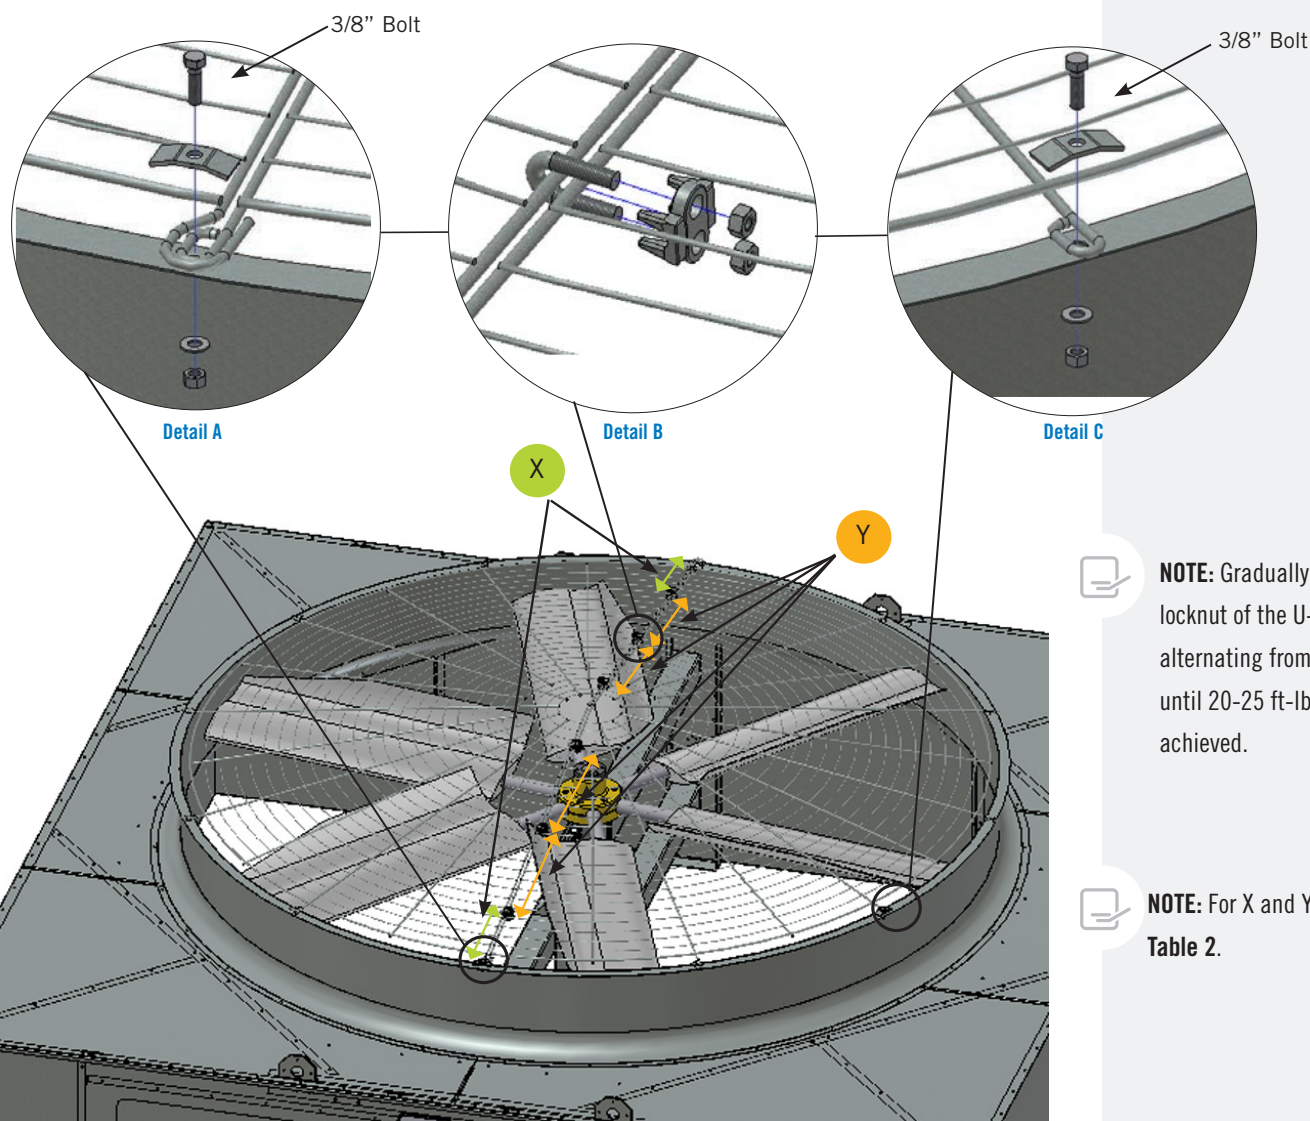

Figure 18. Two-Piece Fan Guard Assembly
1. Bolt the two halves together as illustrated in **Figure 18, Detail B** on **page 11** at the X and Y dimensions shown in **Table 2**.
2. Mount the fan guard to unit as illustrated in **Figure 18, Detail A** for the seams where the two halves join together, and **Detail C** for all others.
NOTE: For X and Y dimension locations, refer to **Figure 18**. For values, refer to **Table 2**.
in Figure 18